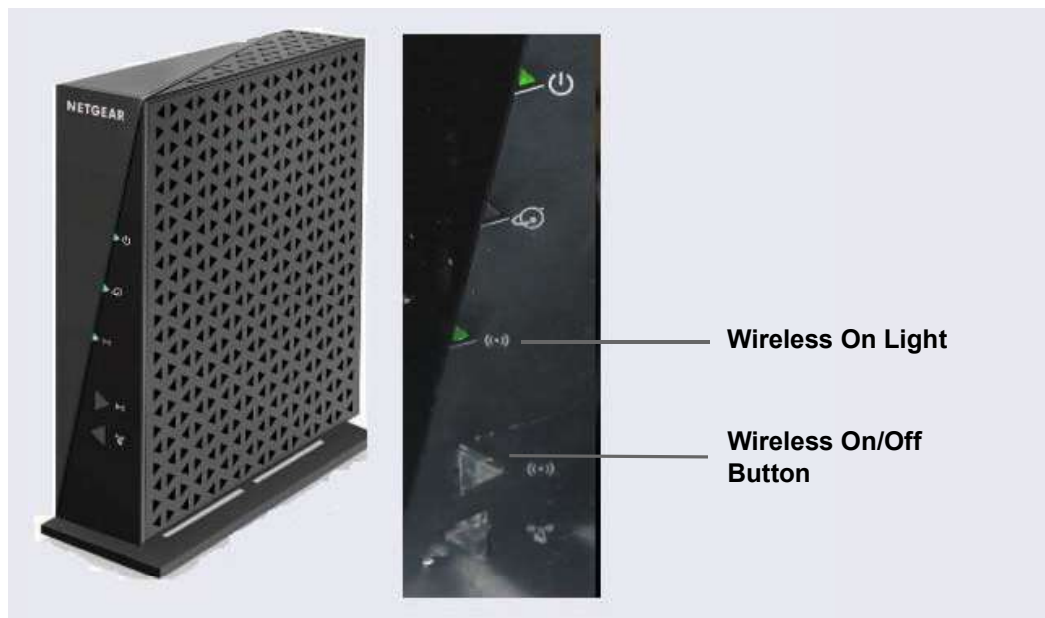

Figure 3-41. Wireless Router On/Off Button and Status Light
6. Check the status of the wireless on light on the router (see Figure 3-41). The light should be green for operation in wireless mode, and red